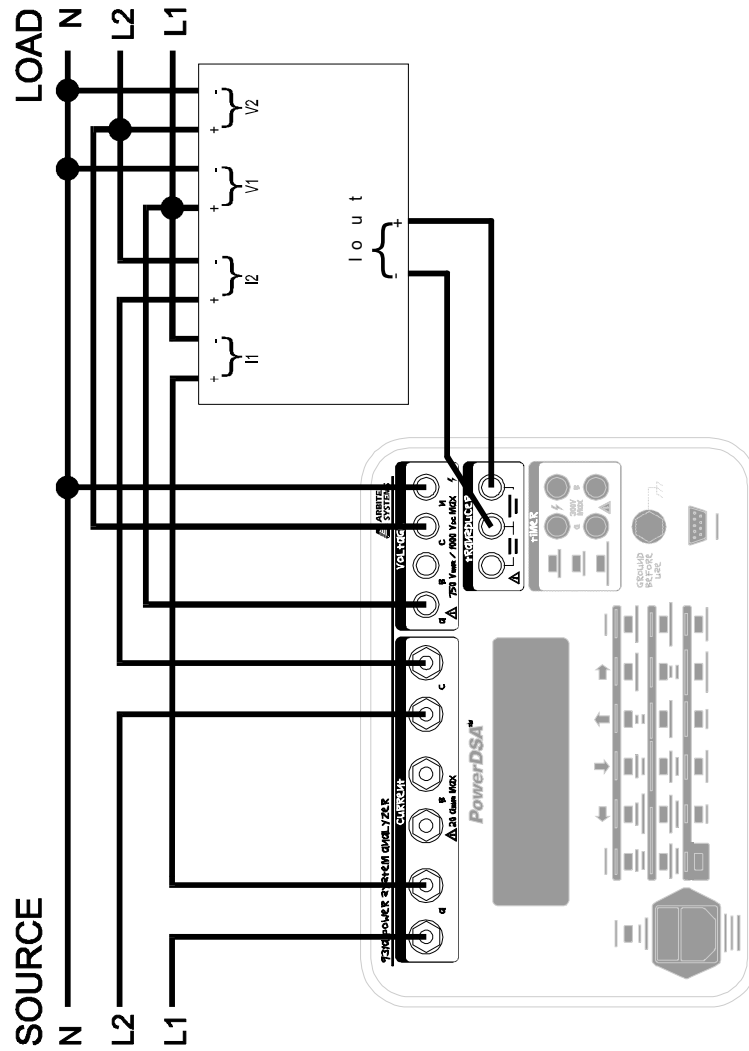

Figure 3-6 Single-Phase, 3-Wire, 2-Element Transducer Test
- **“1Ph 3Wire 2E”** sets the Model 931A to measure values in a circuit having two hot wires and a neutral wire. Commonly referred to as *Split-Phase*, this type of circuit is generally used to supply residential service. This particular configuration is intended for testing 2-element transducers. See Figure 3-6.